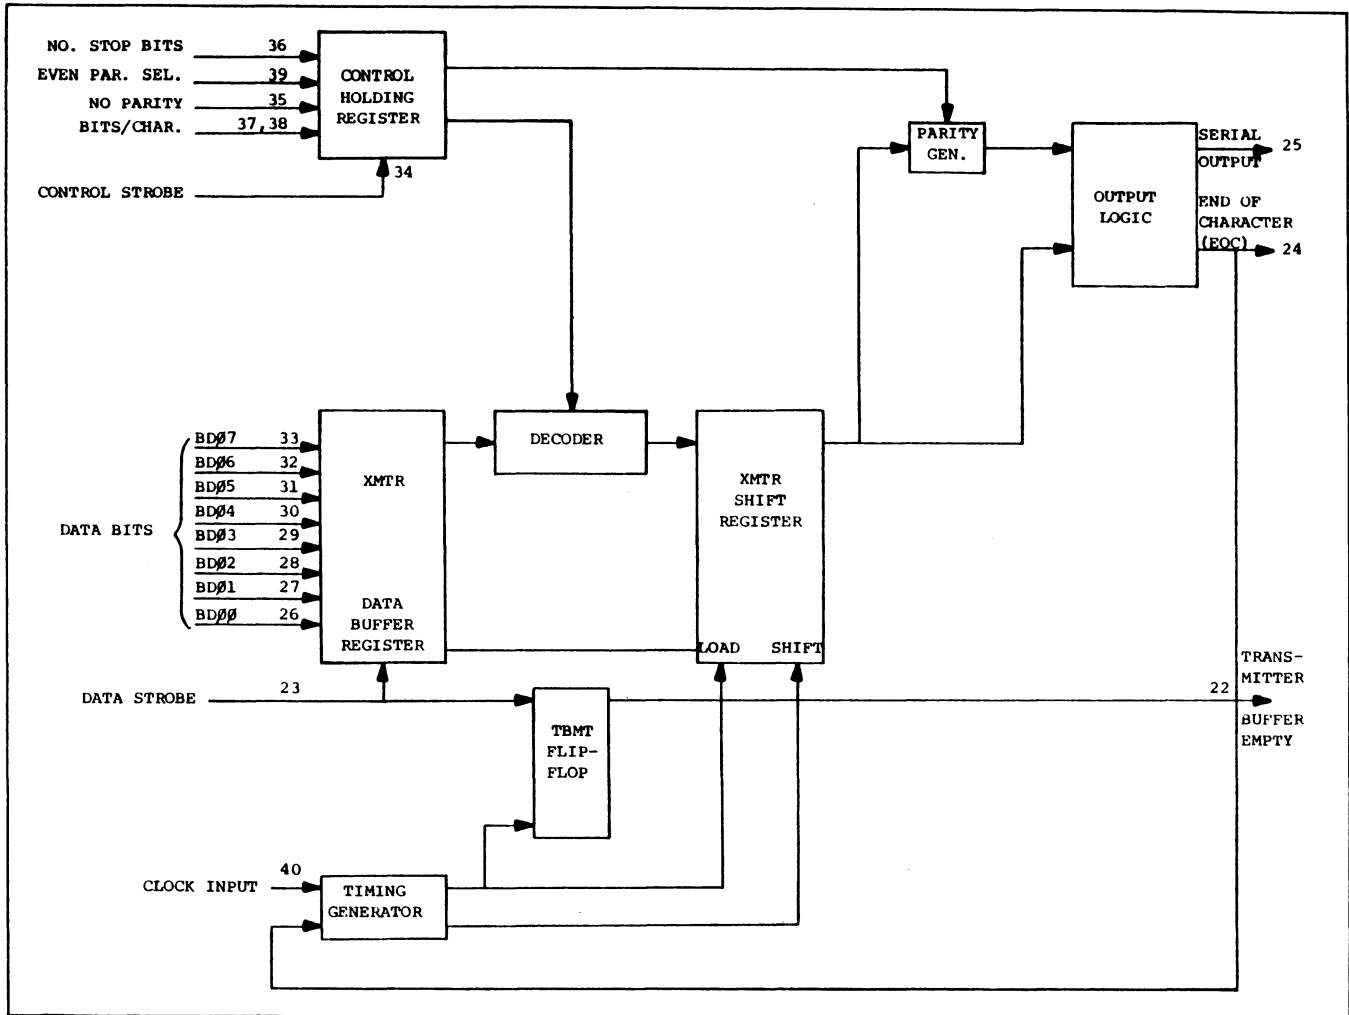

FIGURE 4-5: UART TRANSMITTER, BLOCK DIAGRAM AND SIMPLIFIED TIMING DIAGRAM
Figure 4-5 is a block diagram of the UART transmitter. The data buffer can be loaded with a character when Transmitter Buffer Empty (TBMT) line goes high. Loading is done by generating a short negative pulse on the Data Strobe (DS) line. The load operation is performed by the positive-going trailing edge of the DS pulse. The character is transferred to the UART Transmitter Shift Register as soon as the register is empty. The start, stop, and parity bits are added to the data initiating transmission. One sixteenth of a bit time before a complete character (including stop bits) has been transmitted, the End of Character (EOC) line goes high and remains high until transmission of a new character begins.